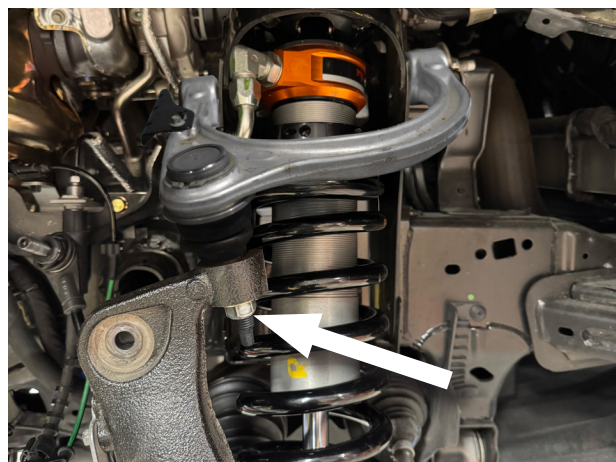

Fig. 2: Remove UCA ball joint nut.
7. Remove the upper ball joint nut. Then, using an appropriate separator, dislodge the upper ball joint from the steering knuckle (Figure 2 and 3).